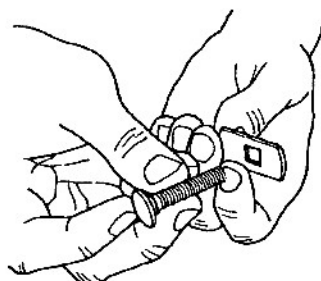

Fig. A-30
36. Insert a carriage bolt through the square hole of a locking plate, as shown in Fig. A-30.